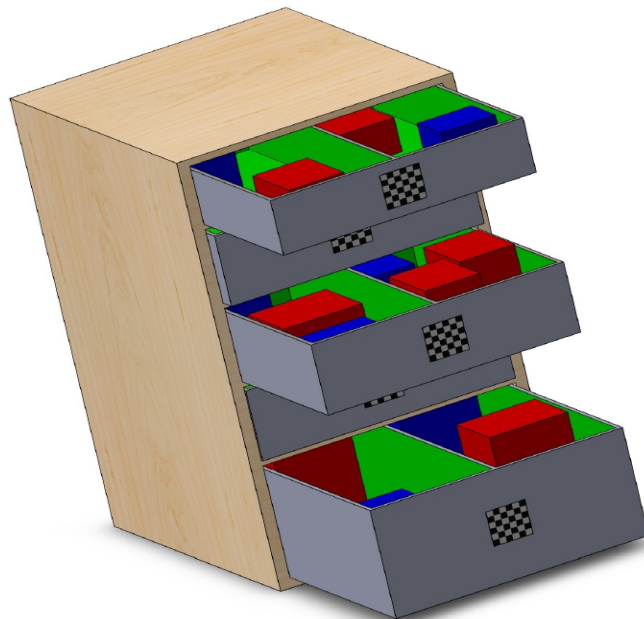

Figure 3: Conceptual design for the pod.
The first design draft can be seen in Figure 3 (the blue and red rectangular boxes represent challenge items to be picked). This initial design utilizes the maximum amount of volume allowed for the pod ($5000 \text{ cm}^2 \times 125 \text{ cm}$), as well as the maximum number of bins (10). The pod features five drawers which can be opened by the robot easily by utilizing the linear actuator we have purchased from Festo (the robot will grip the drawer and then simply move backward or forward in the same configuration on the actuator in order to open or close a drawer). Drawers allow the robot to pick downward into each bin, making planning and grasping less challenging than having to reach inside occluded spaces. Each drawer has been subdivided into two bins. The lowest drawer is designed such that it has a height 1 cm greater than the maximum possible item height allowable in the challenge as specified by the rules. The next three bins have been designed to hold items half as tall, and the top bin has been designed to hold items one quarter as tall. These ratios are based on assumed proportions of items, and may likely change after receiving the official item list from Amazon. Each drawer features an april tag to help the arm localize the drawer and find the appropriate gripping surface. The internal walls of each drawer have been colored green to allow for easy segmentation of vision algorithms when identifying and localizing items.